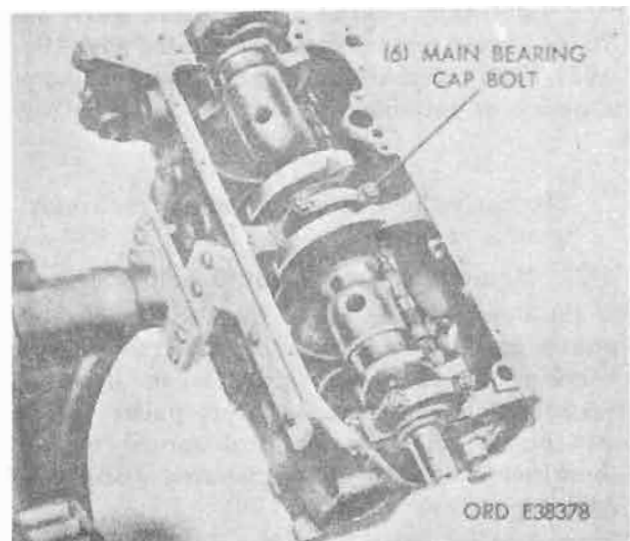

Figure 4-112. Main bearing cap bolts.
b. **Main Bearing Cap Bolts.** Loosen six self-locking bolts securing three main bearing caps to cylinder block (fig. 4-112).